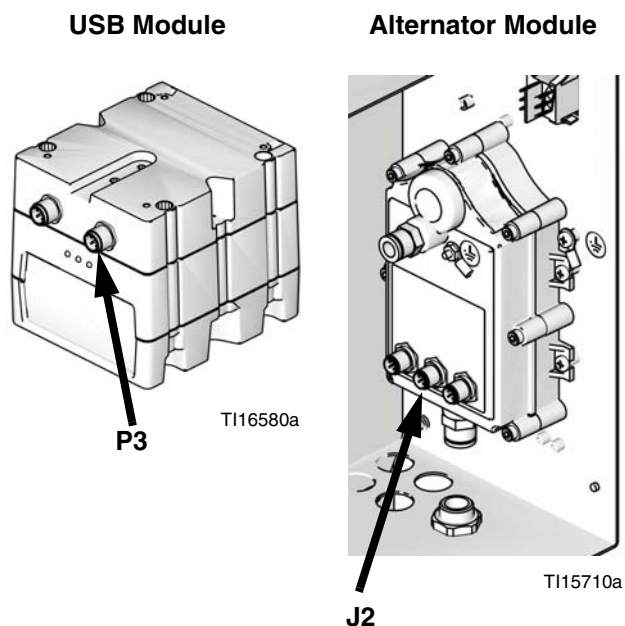

FIG. 3. Install Part No. 15V782 Cable (IS Systems)
1. Connect Part No. 15V782 Cable (order separately) to J2 of the alternator module and to connector P3 of the USB module. See Fig. 3.